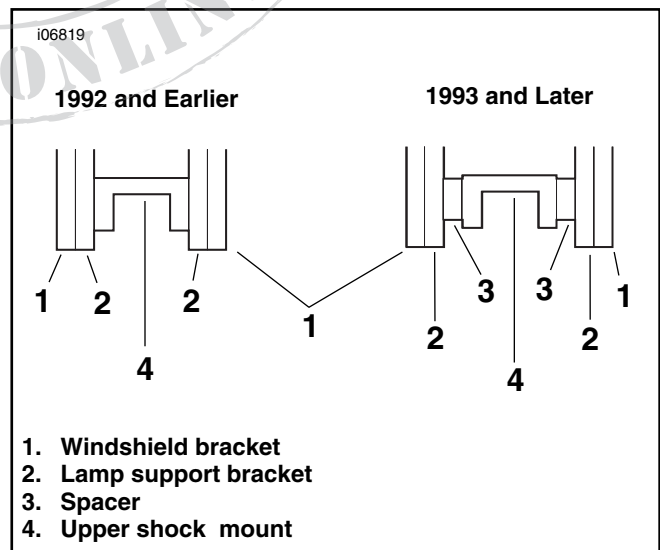

Figure 4. Auxiliary Lamps and Windshield Combination
**For the combination of support bracket and windshield:** See Figure 4.
4. See the Service Parts illustration. Apply Loctite® 243 (blue) to the threads and install the original 5/16"-24 x 1/2 in. socket head screw removed from the right side of the rigid fork, and a 5/16 in. internal tooth lockwasher (12) from the kit onto the left side to fasten the auxiliary lamp bracket long tab to the rigid fork.
5. Obtain the 5/16"-24 x 7/8 in. socket head screw (11) and another 5/16 in. internal tooth lockwasher (12) from the kit. Apply Loctite® 243 (blue) to the threads and fasten the screw and lockwasher through the brake line P-clamp and through the right-side long auxiliary-lamp support bracket long tab to the rigid fork.